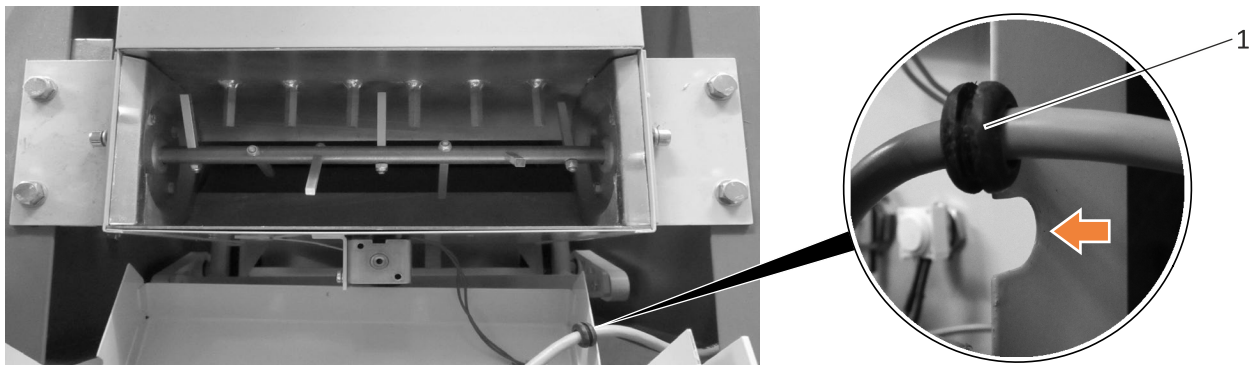

Figure 18: Rubber bush at the filling container
- ⇒ Insert the rubber bush on the casing through the recess; refer to *figure 18*.